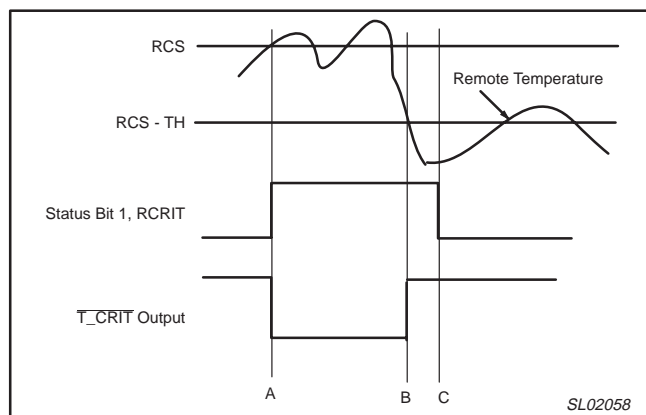

Figure 15. $\overline{\text{T_CRIT}}$ temperature response timing diagram
After every local and remote temperature conversion the Status register flags and the $\overline{\text{T_CRIT}}$ output are updated. Figure 15 is a timing diagram showing the relationship of $\overline{\text{T_CRIT}}$ output, Status bit 1 (RCRIT) and the remote critical temperature setpoint (RCS), and critical temperature hysteresis (TH) with remote temperature changes. Note that the $\overline{\text{T_CRIT}}$ output is de-activated only after the remote temperature is below the remote temperature setpoint, RCS minus the Hysteresis, TH. In the interrupt mode only, the Status register flags are reset after the Status register is read.